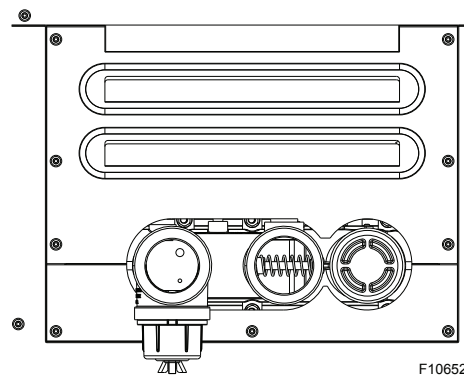

Figure 31. Access Panels
1. Remove right and left side access panels. See **Figure 31**.